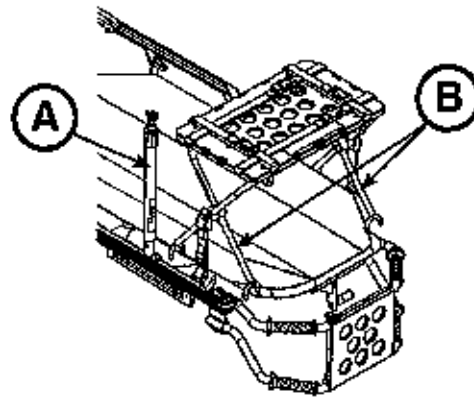

Figure 81
3. If the cot is equipped with an I.V. pole, raise the I.V. pole (A) to the up position as shown in Figure 81.
4. Place the defibrillator platform on the cot frame as shown in Figure 81. Position the inside legs (B) of the defibrillator platform toward the head end of the cot to properly fit the defibrillator platform on the cot frame.